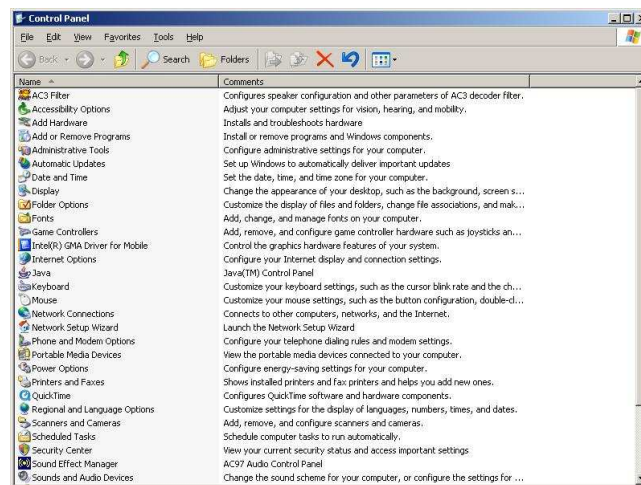

Figure 22: Control Panel
2. Double click on Control Panel, obtaining a screen like figure 22.